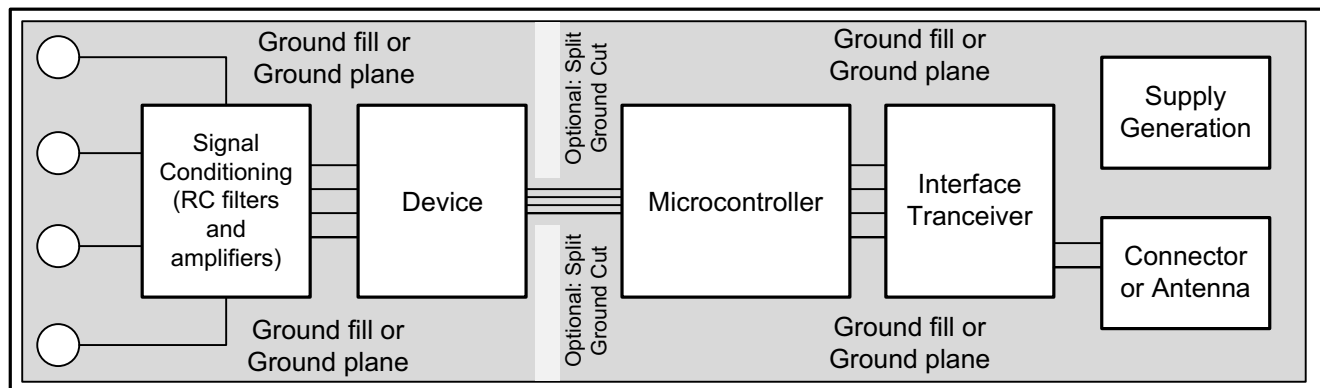

Figure 67. System Component Placement
TI recommends employing best design practices when laying out a printed circuit board (PCB) for both analog and digital components. This recommendation generally means that the layout should separate analog components [such as ADCs, amplifiers, references, digital-to-analog converters (DACs), and analog MUXs] from digital components [such as microcontrollers, complex programmable logic devices (CPLDs), field-programmable gate arrays (FPGAs), radio frequency (RF) transceivers, universal serial bus (USB) transceivers, and switching regulators]. An example of good component placement is shown in Figure 67. While Figure 67 provides a good example of component placement, the best placement for each application is unique to the geometries, components, and PCB fabrication capabilities employed. That is, there is no single layout that is perfect for every design and careful consideration must always be used when designing with any analog components.